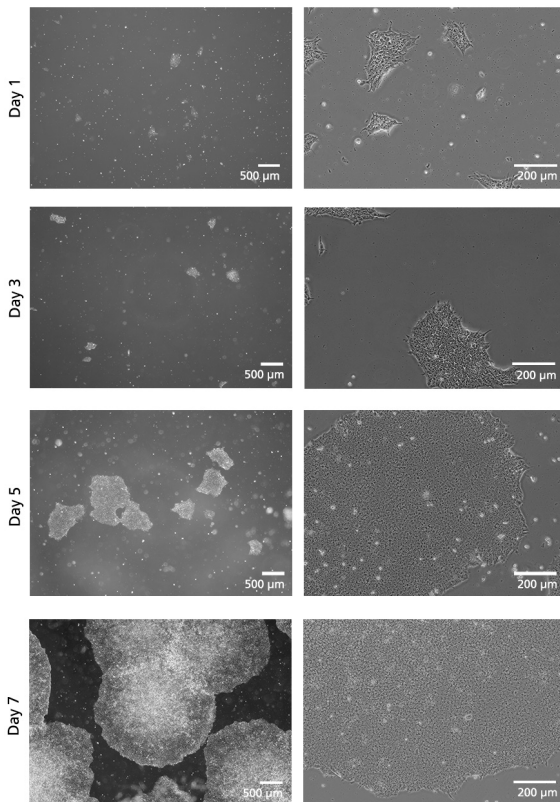

Figure 1. Recovery of SCTi006-A iPSCs on Days 1 - 7 After Thaw.
13. Perform medium changes as desired using mTeSR™ Plus and visually assess cultures daily to monitor growth and morphology. See Figure 1 for expected growth characteristics during the first seven days after thawing. Medium can be changed daily, every other day, or up to two consecutive days of feeding can be skipped when using mTeSR™ Plus. To skip two consecutive days of feeding, add twice the volume of medium.